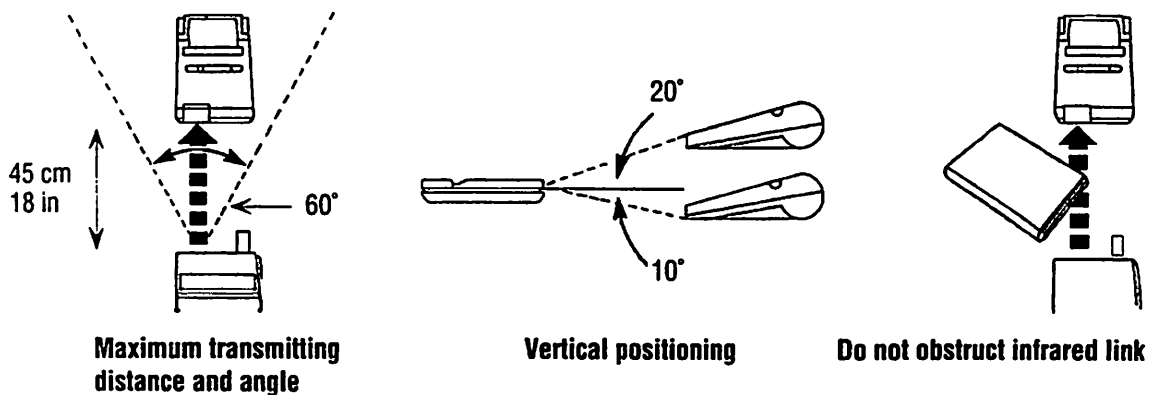

Figure 2-9. Positioning the oximeter and the printer for printing
4. Make sure the infrared transmitter on the oximeter and the infrared receiver on the printer are correctly positioned in relation to each other as shown in figure 2-9.